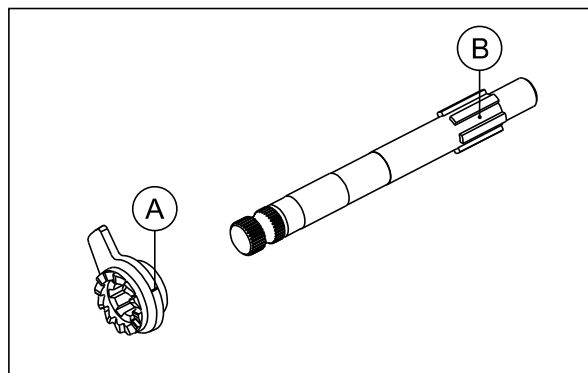

Fig. 3.178
While reassembling ratchet kickstarter match the mark (A) on the ratchet with the punch mark (B) on the shaft kickstarter. (Fig. 3.178)